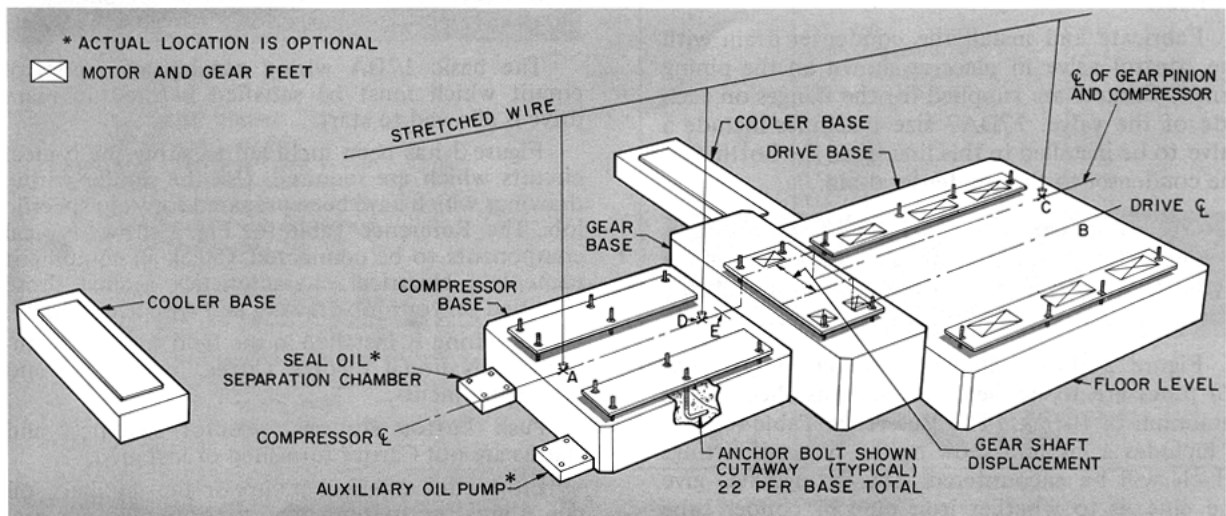

Fig. 1 — Typical 17DA Foundation Layout
- Figure 1 — Typical 17DA Foundation Layout**